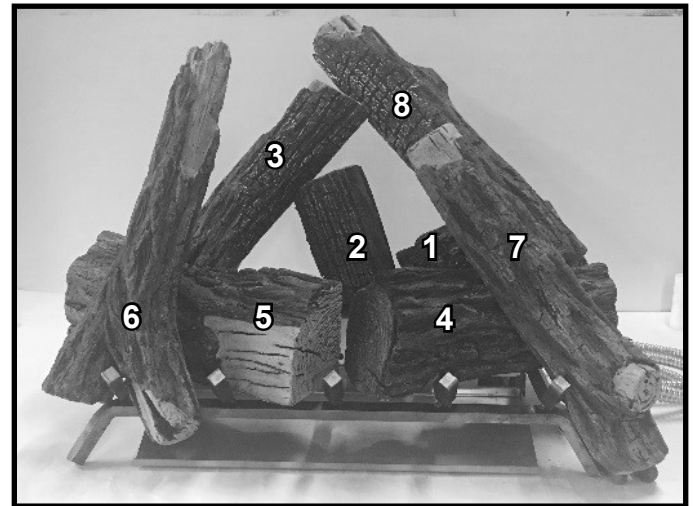

Figure 9. Install Log #8
9. Log #8 has a hole in the bottom of the log that will engage on the top of the right front log (Log #4). Log #8 also has a notch that will engage with Log #3 as shown in Figure 9.